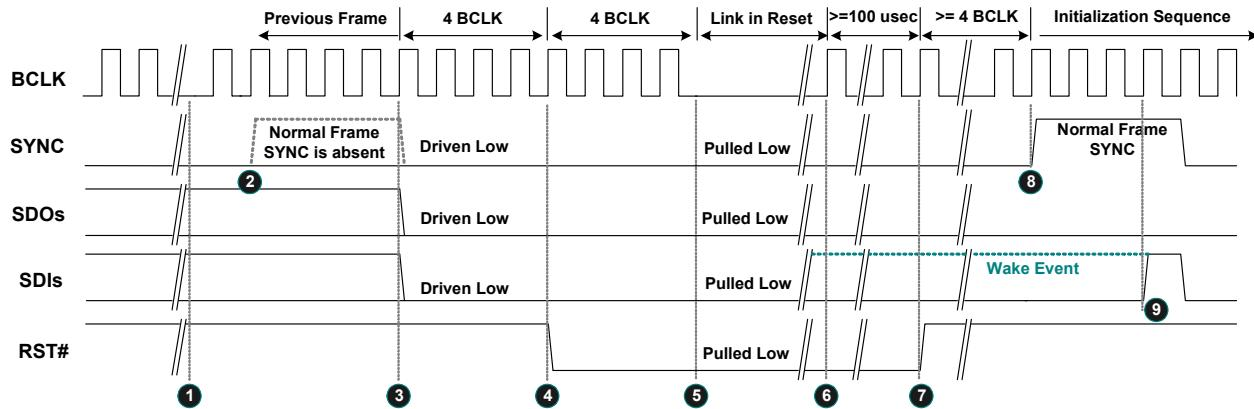

Figure 13. Link Reset Timing
3. Software initiates power management sequences. Figure 13, page 20, shows the ‘Link Reset’ timing including the ‘Enter’ sequence (①~⑤) and ‘Exit’ sequence (⑥~⑨)